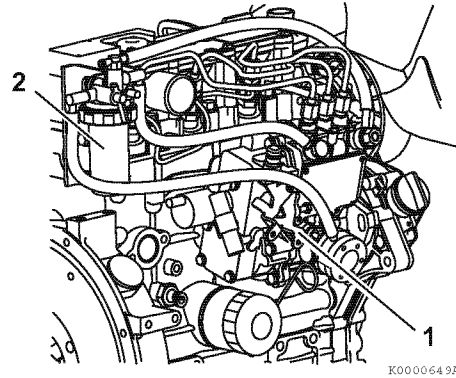

Figure 4-4
1. Operate the fuel priming lever (**Figure 4-4, (1)**) several times until the fuel filter cup (**Figure 4-4, (2)**) is filled with fuel.